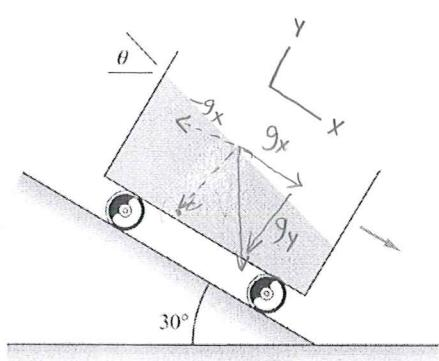

Figure 1
D. The tank of water in figure 1 accelerates uniformly by freely rolling down a 30° incline. If the wheels are frictionless, what is the angle θ ? *assumptions: no sloshing, smooth wheel*